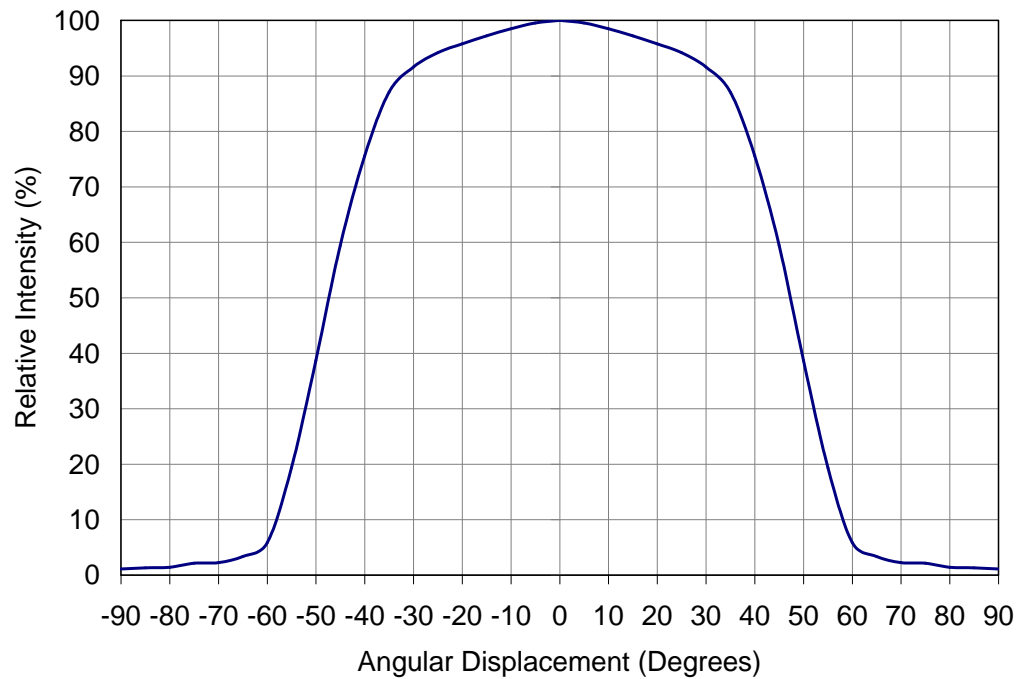

Figure 4: Typical representative spatial radiation pattern.
- Solder conditions per JEDEC 020D. See Reflow Soldering Profile Figure 4.